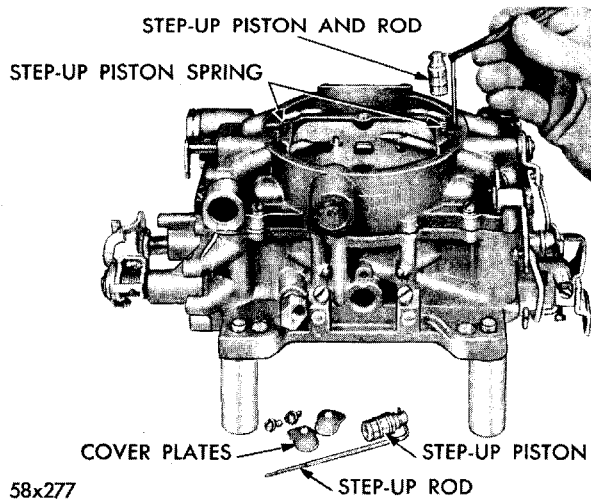

Fig. 2—Removing or Installing Step-Up Pistons and Rods
(4) Remove the screws attaching the step-up piston and rod cover plates. **Hold cover down with a finger to prevent the piston and rods from flying out.** Lift off the plates and slide the step-up pistons and rods out of the air horn, as shown in Figure 2. Remove the step-up piston springs.
(5) Remove the ten screws that attach the air horn to the main body. (1 screw in hole in air horn.) Lift air horn straight up and away from the main body. **When removing air horn, use care so as not to bend or damage the floats.** Remove the accelerator pump, plunger lower spring from the pump cylinder.